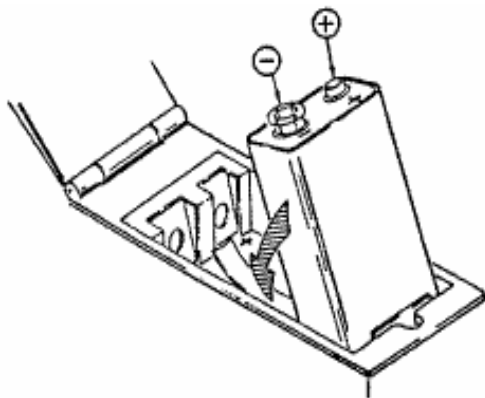

FIGURE 3-9. Torso Harness Battery Installation
3. With the electrical contacts aligned as shown in Figure 3-9, put a 9 volt alkaline battery (type BA3090/U) in the battery compartment. Polarity of the contacts is required.